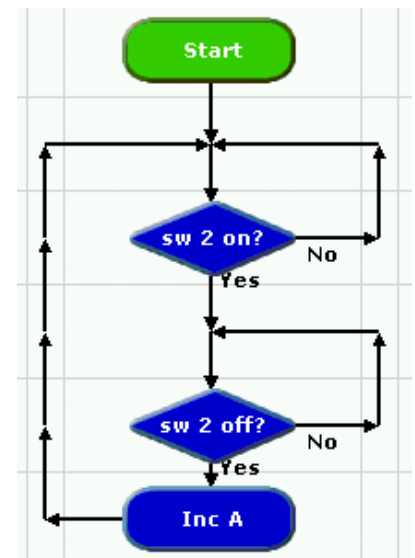

Fig 12. This program counts single switch presses.
4. Add an **Inc** command to the program as shown in Fig 12. Double click on the Inc command and select **A** from the drop down box. Click OK.
Fig 12 provided a program to count switch presses, but before you download it to the T-board you need a way of displaying the count.